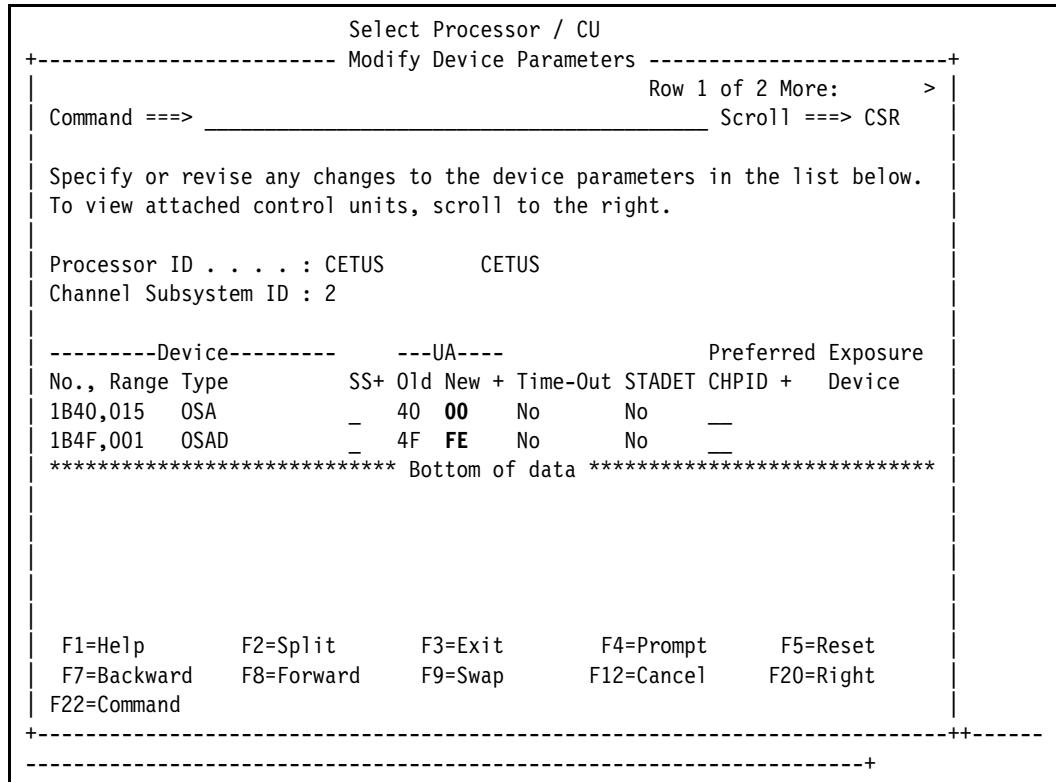

Figure 13-38 Control units: Modify Device Parameters, OSE
7. HCD now shows the Modify Device Parameters panel where you have the option to override the Unit Address (UA) numbers. For OSA definitions, the Unit address usually starts at 00.
8. Make the following updates to define the Modify Device Parameters (Figure 13-38), and press **Enter**: